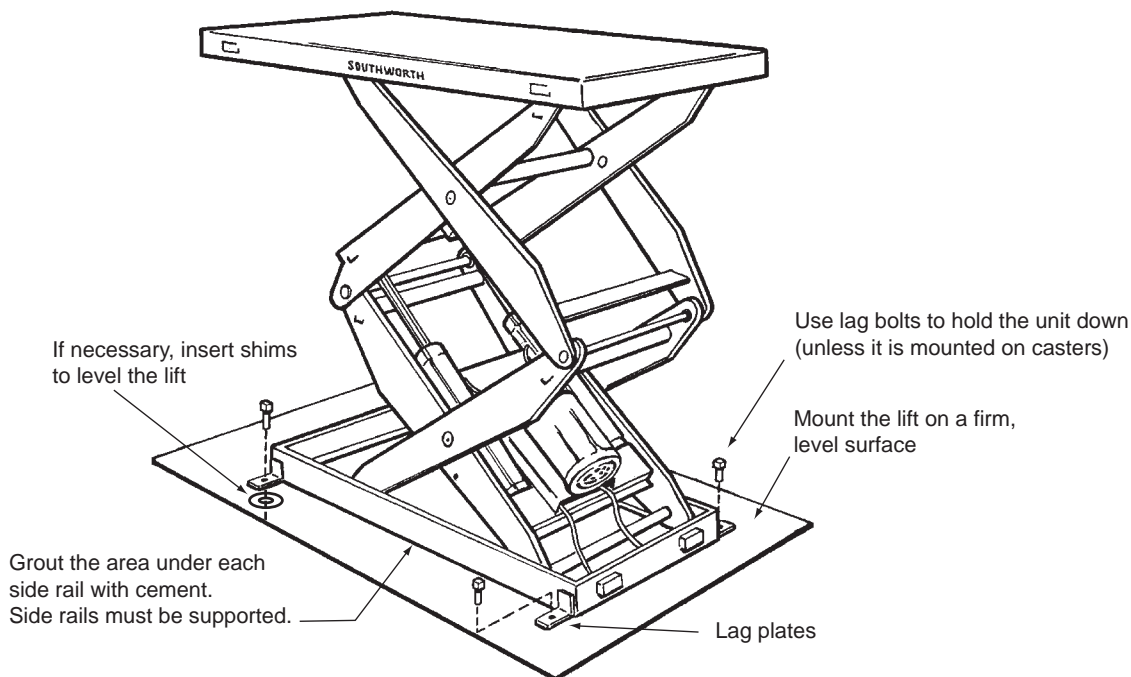

Fig. 2 – Mount the Lift Securely
7. Move the lift into position, supporting the base of the lift. Install the lift as shown in Fig. 2. Unless the lift is mounted on casters, lag the lift to the floor.
17. If your lift is mounted in a pit, align the unit with the sides of the pit. Once you are sure the lift is positioned correctly, mark the locations of the lag holes in the base frame, and drill the holes. If necessary, insert metal shims to level the base of the lift. Insert and tighten the lag bolts to secure the lift. Grout under the base rails to prevent vibration and distortion of the base frame, as shown in Fig. 2.